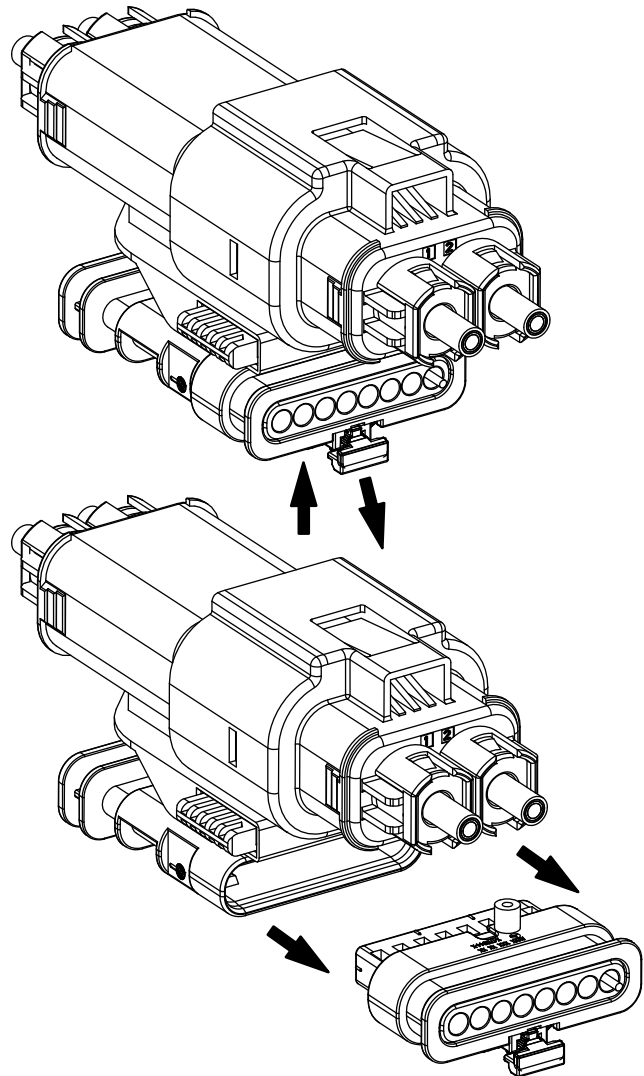

Figure 28
1. Disengage the low voltage connector CPA. While depressing the latch on the low voltage plug connector, pull the low voltage plug connector until it is completely unmated from the low voltage cap connector. See Figure 28. If the low voltage connectors cannot be easily unmated, ensure that the plug connector CPA has been completely disengaged, and that the plug connector latch has been completely depressed.